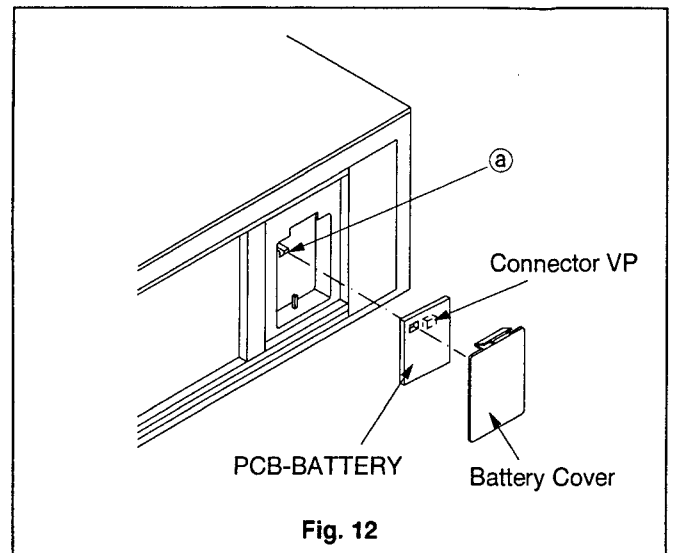

Fig. 12
1. Remove the Battery Cover shown in Fig. 12.
2. Unfasten the one catch (a) shown in Fig. 12. and remove the PCB-BATTERY.